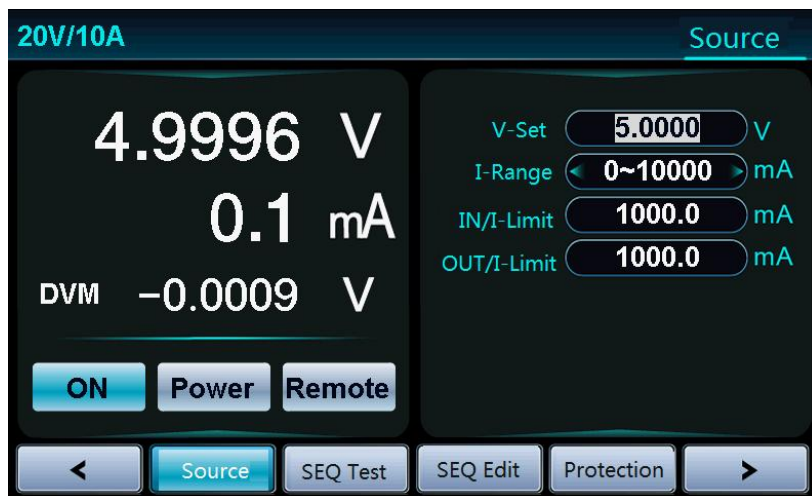

Figure 22 Source Mode
Press the Power Mode key or select Power Mode from the Menu to enter the screen, as shown in Figure 22.
6. Press **On/Off**, the display channel status is ON, as shown in Figure 22.